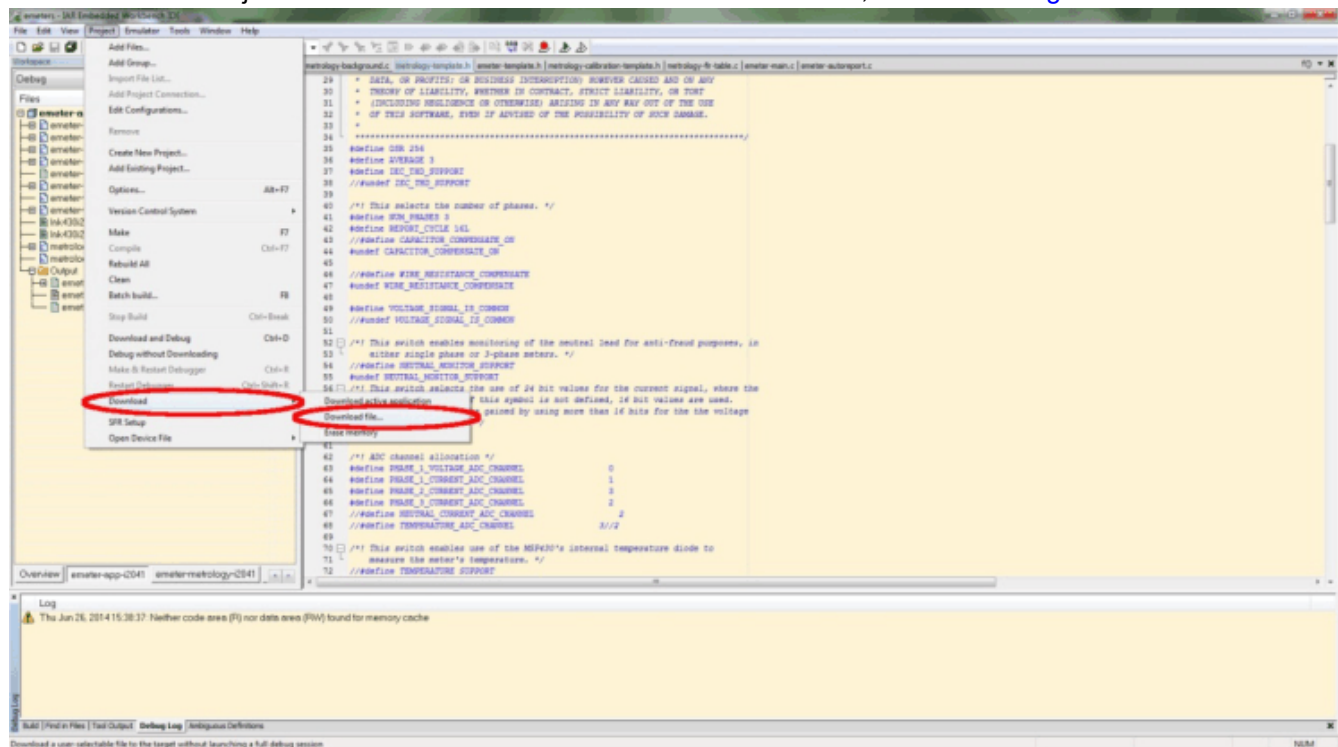

Figure 9-12. Download Executable File
2. Then select Project → Download → Download File... from the menu, as shown in Figure 9-12.